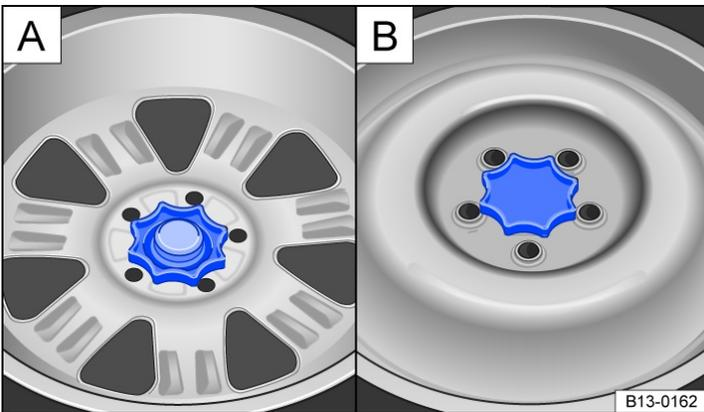

Fig. 2 In the luggage compartment: **A**: handwheel for securing spare wheel, **B**: handwheel for securing temporary spare wheel.
- Fully unscrew the handwheel in the middle of the spare wheel → *Fig. 2* **A** or temporary spare wheel **B** anticlockwise.